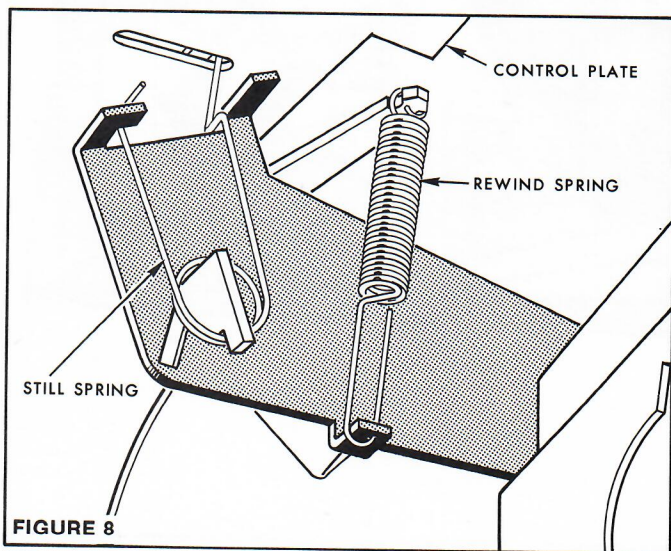

FIGURE 8
3. Remove the REWIND SPRING for the safety shutter, Figure 8.